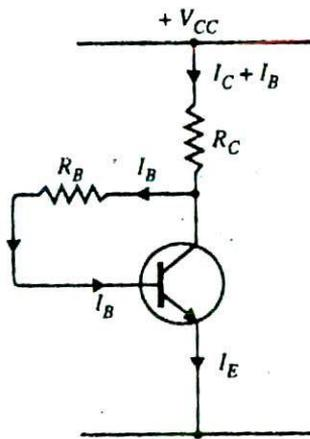

Fig. 11.11
In this method, one end of  $R_B$  is connected to the base and the other end to the collector as shown in Fig. 11.11. Here, the required zero signal base current is determined not by  $V_{CC}$  but by the collector-base voltage  $V_{CB}$ . It is clear that  $V_{CB}$  forward biases the base-emitter junction and hence base current  $I_B$  flows through  $R_B$ . This causes the zero signal collector current to flow in the circuit.
**Circuit analysis.** The required value of  $R_B$  needed to give the zero signal current  $I_C$  can be determined as follows. Referring to Fig. 11.11,